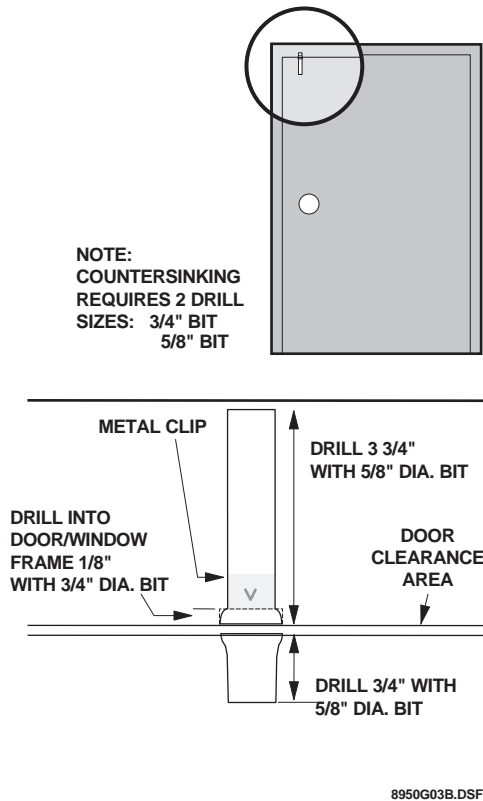

Figure 2. Preferred Method: Countersunk Mounting Dimensions
To minimize the risk of electrical shock from concealed wires, mount the sensor in the top of the door or window frame. (See Figure 2.)
4. Drill a  $\frac{5}{8}$ " diameter hole  $\frac{3}{4}$ " deep into the door or window (see Figure 2).
7. Verify that the sensor and magnet marks are properly aligned with the installed magnet. If misaligned, remeasure and remark the sensor location on the frame. (See Figure 2 or 4).
8. To install the sensor in countersunk applications (preferred), drill a 1/8" deep starter hole in the frame with a 3/4" twist type drill bit. Finish the hole by drilling with a 5/8" drill bit, until the complete hole depth measures 3 3/4" (see Figure 2).